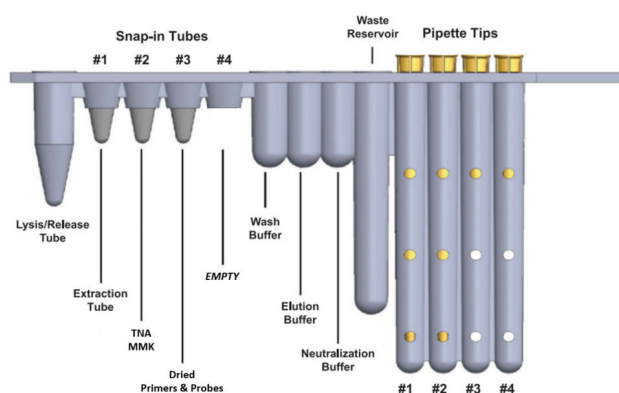

Figure 1: Snap Extraction Tubes and Master Mix Tube into Unitized Reagent Strips
5. For each specimen to be tested, place one (1) Unitized Reagent Strip on the BD MAX System Rack. Assemble the strip as in Figure 1: